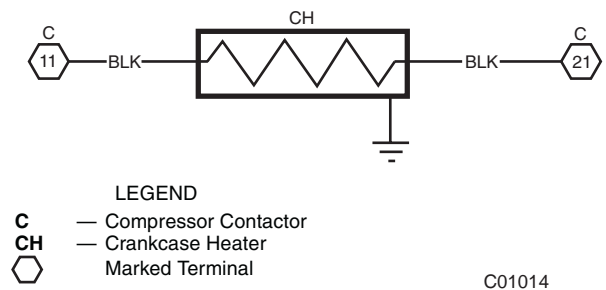

Fig. 2 —Crankcase Heater Wiring
- Connect one black lead to the compressor contactor terminal 11, and connect other black lead to compressor contactor terminal 21 (See Fig. 2).